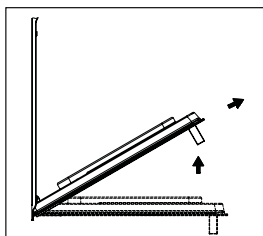

Fig.11-2
- › Now, shutting the door slightly, you can lift it out by pulling out the hooks “A” as shown in figure 11-2.